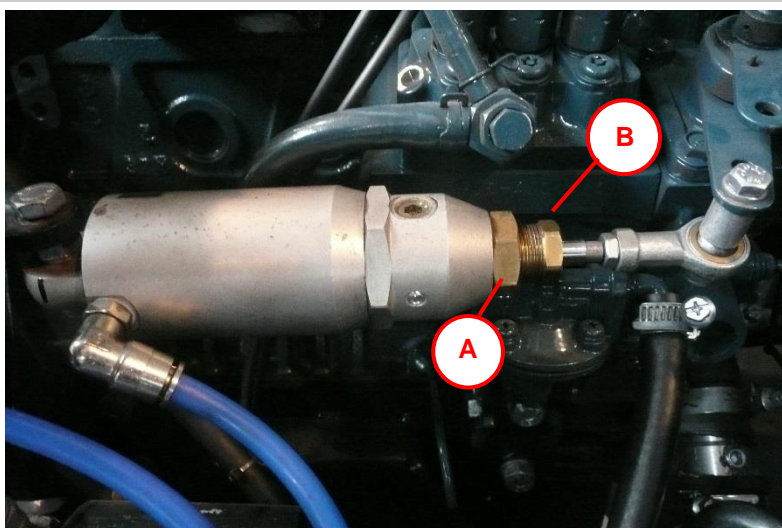

Figure 11.1.1 Adjusting idle speed motor
- 5) Loosen the 23mm lock nut (Letter A in Figure 11.1.1)
- 6) To increase the idle speed of the engine, tighten the 18 mm nut (Letter B in Figure 11.1.1)
- 7) To reduce the idle speed of the engine, loosen the 18 mm nut (Letter B in Figure 11.1.1)
- 11) Tighten the 23 mm lock nut when the appropriate RPM is obtained (Letter A in Figure 11.1.1)